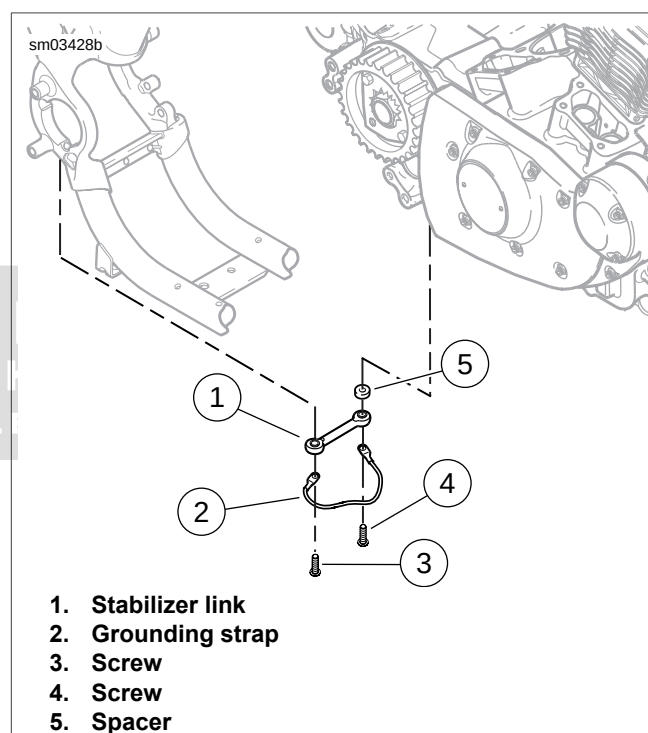

Figure 2-169. Rear Stabilizer Link Assembly (typical)
2. See Figure 2-169. Remove short screw (3), long screw (4), ground strap (2), stabilizer link (1) and spacer (5).
1. See Figure 2-169. Install short screw (3) through ground strap (2) and stabilizer link (1). Thread screw into frame on right side of motorcycle. Do not tighten at this time.
2. Install long screw (4) through ground strap, stabilizer link and spacer (5) into engine case.
9. See Figure 2-169. Remove screw (4) from left end of rear stabilizer link (1) and ground strap (2). Remove spacer (5).
7. See Figure 2-169. Install screw (4) through free end of ground strap (2), rear stabilizer link (1), spacer (5), and into engine crankcase. Tighten to 25-35 ft-lbs (33.9-47.5 Nm).
13. See Figure 2-169. Remove screws (3, 4) securing rear stabilizer link (1). Remove stabilizer link, ground strap (2), and spacer (5).